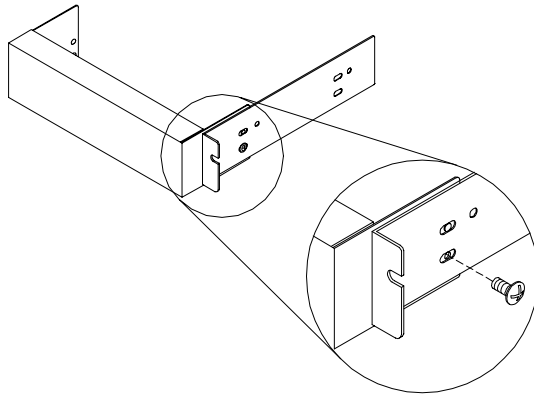

Figure 4-28. Removing the slide rail from the Filler Panel
6. Remove the screw securing the filler panel removed in the previous step to the right device rail. Save the right device rail. See Figure 4-28.